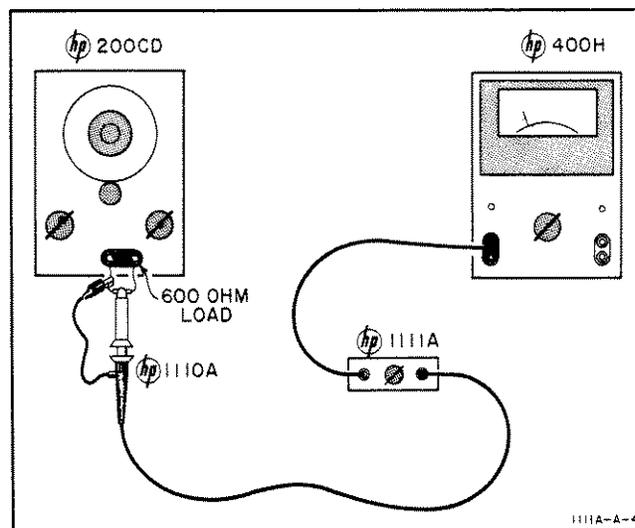

Figure 5-2. Oscillator-Voltmeter Test Setup
- a. Refer to Table 5-1 and Figure 5-2 and connect test equipment. Items required are 2, 3, 4 and 9.
- a. Refer to Table 5-1 and Figure 5-2 and connect test equipment. Items requires are 2, 3, 4 and 9.
a. Refer to Table 5-1 and Figure 5-2 and connect specified equipment, items 2, 3, 4 and 9.